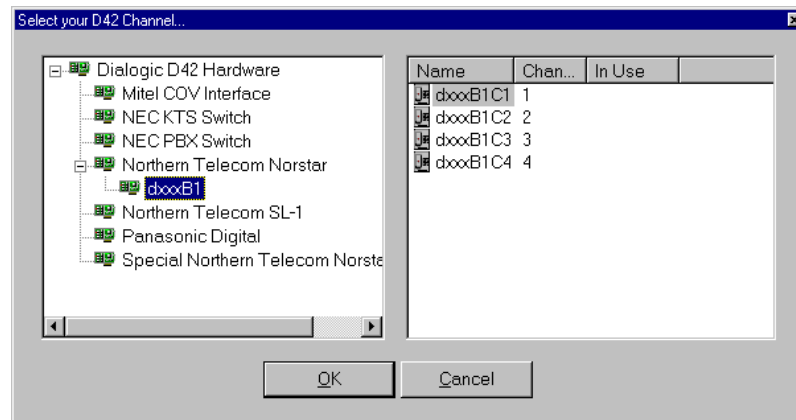

Figure 23. Select a D/42 Channel
12. Choose a board listed below the applicable PBX Integration board (Example: dxxxB1 under the Northern Telecom Norstar). A channel list is displayed in the right-hand window, as seen in *Figure 23*.